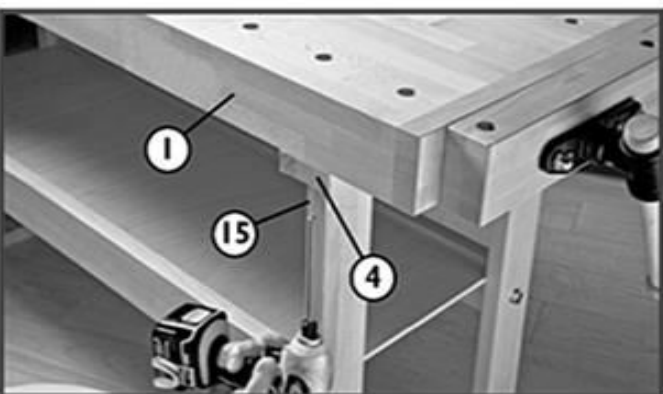

Fig. 5
- Place the Bench Top (1) so it rests in place on the two leg assemblies. Attach to the Top Rail Supports (4) with four Wood screws 5x50mm (15), one in each corner (Fig. 5).